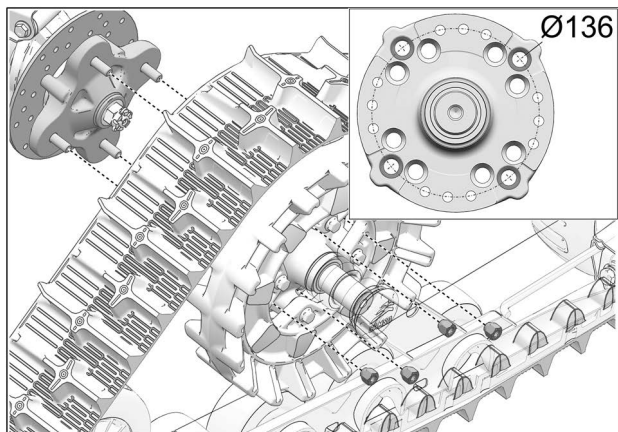

Fig. 9
9. Secure undercarriage to rear hub using the vehicle's own lug nuts. Use bolt circle $\varnothing 136$ mm. See Fig. 9